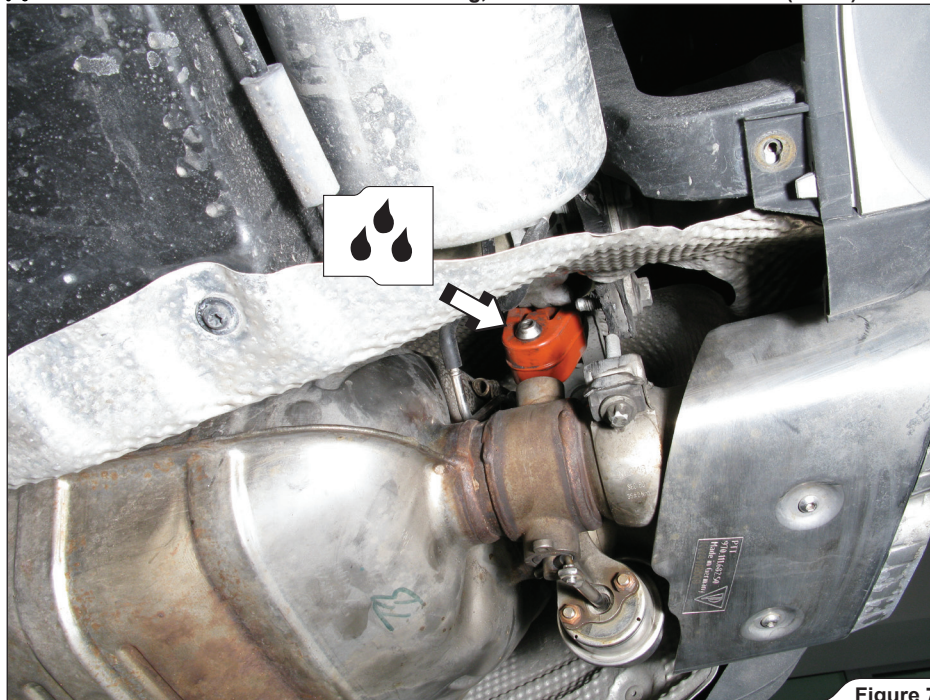

Figure 7
5. **For all vehicle models:** carefully pull the rubber brackets off the muffler's brackets on both sides and remove the original mufflers off the vehicle (**Figure 7**).